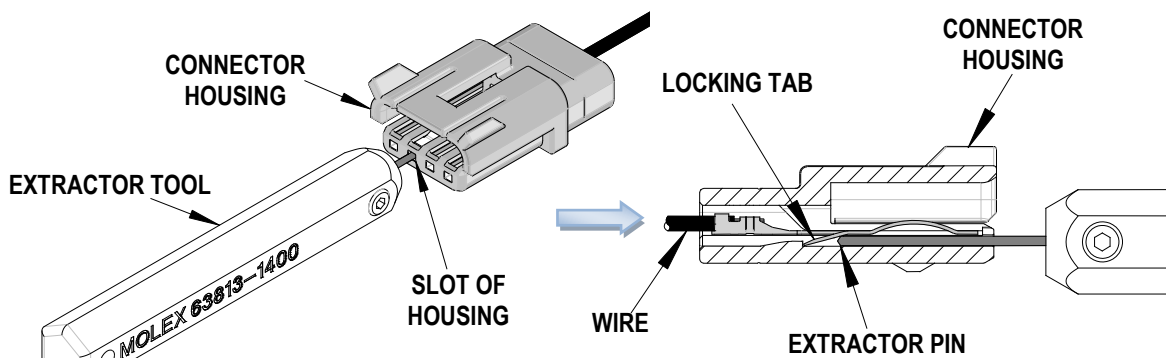

Figure 1
1. Push the terminal forward in the arrow direction before using the Extractor Tool. See Figure 1.